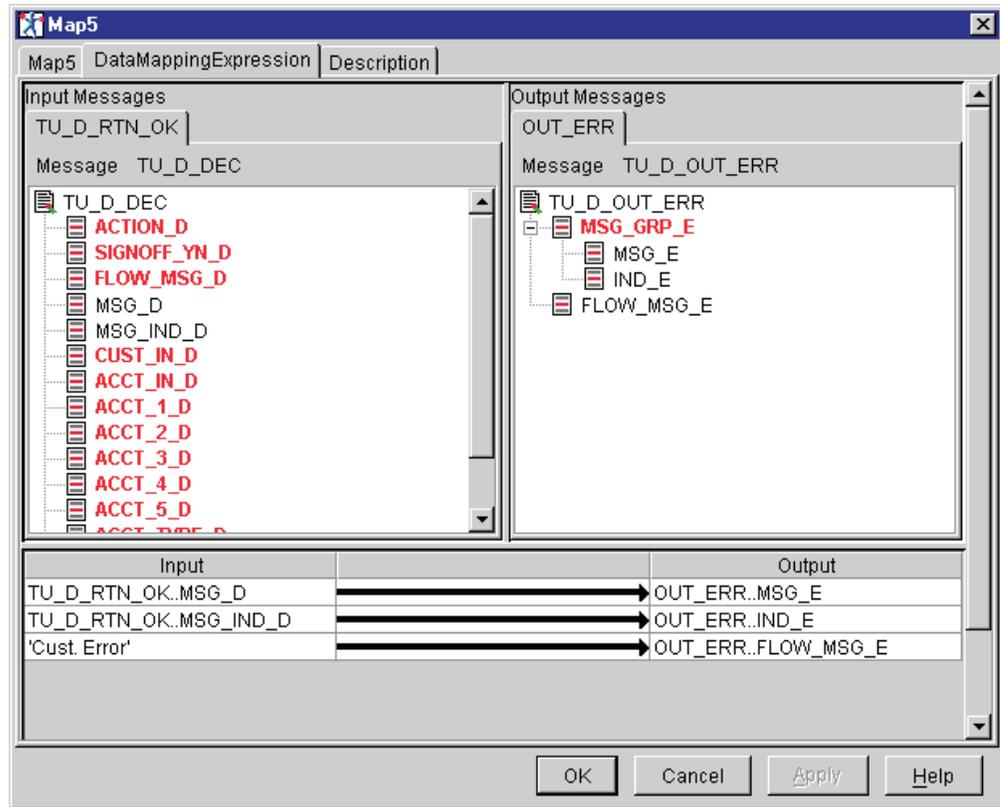

Figure 37. Mapping for Map5 node
- 5) Perform the mapping for Map5 node as listed in Table 17 and shown in Figure 37 on page 55. This map passes error response messages to the DPL Error response Output Terminal (OUT\_ERR). Click **OK** when the mappings are completed.